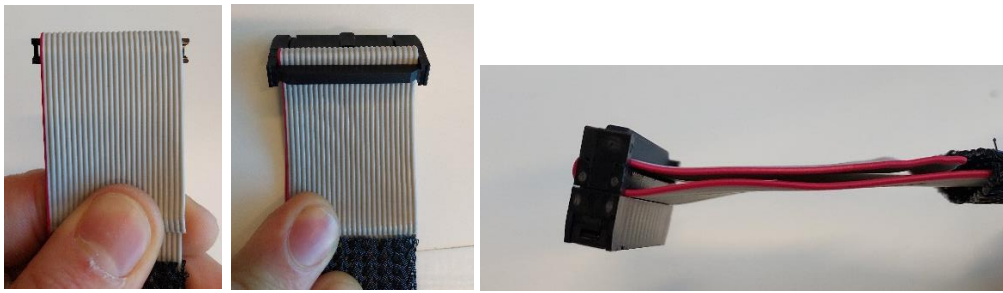

Figure 45. Strain relief bridge placement.
11) Once the IDC connector is clamped, fold the excessive cable tight and attach the strain relief bridge (See Figure 45).